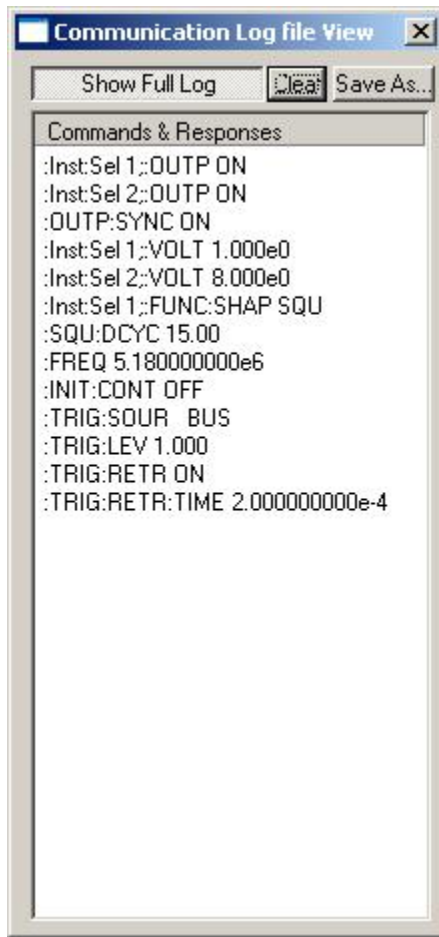

Figure 3-48, Log File Example
**Pulse Example, Section 2** The first pulse section is complete. We are ready now to start building the second section of the pulse as shown in Figure 3-48. Point and click on the Edit command and select the Append Section option. A new section number will appear but it will show empty next to the section identifier.
The Log File is very useful for programmers that do not wish to spend a lot of time on manuals. When you use ArbConnection, every time you click on a button or change parameter, the command is logged in the same format as should be used in external applications. Figure 3-48 shows an example of a log file and a set of SCPI commands as resulted from some changes made on ArbConnection panels. You can set up the 5300 from ArbConnection to the desired configuration, log the commands in the log file and then copy and paste to your application without any modifications. Of course, this is true for simple commands that do not involve file download but, on the other hand, this is a great tool to get you started with SCPI programming.